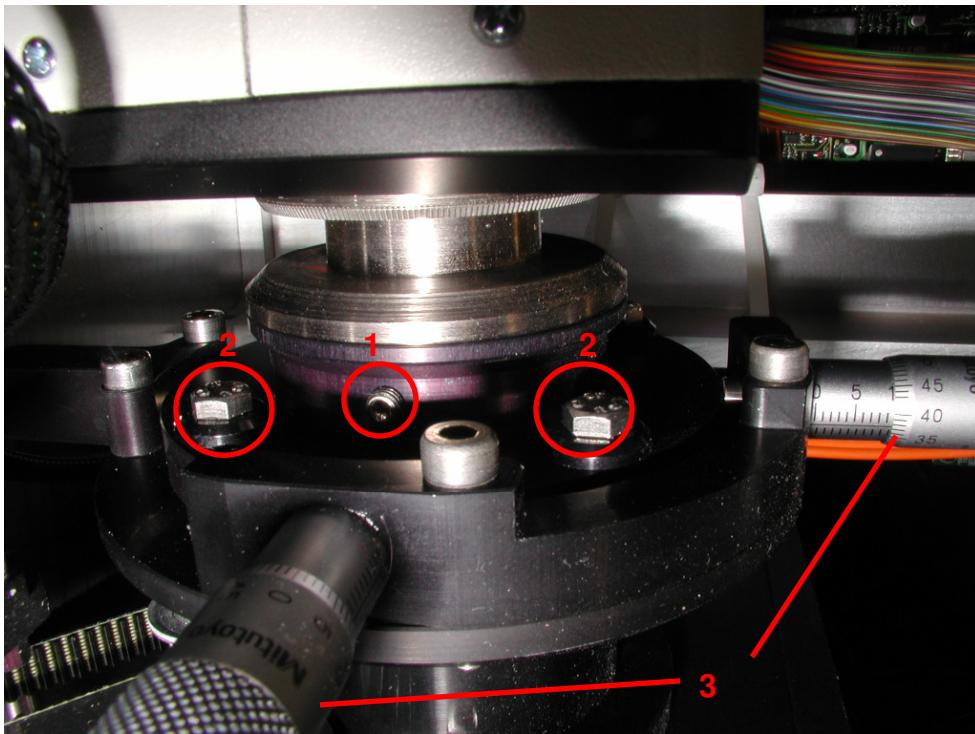
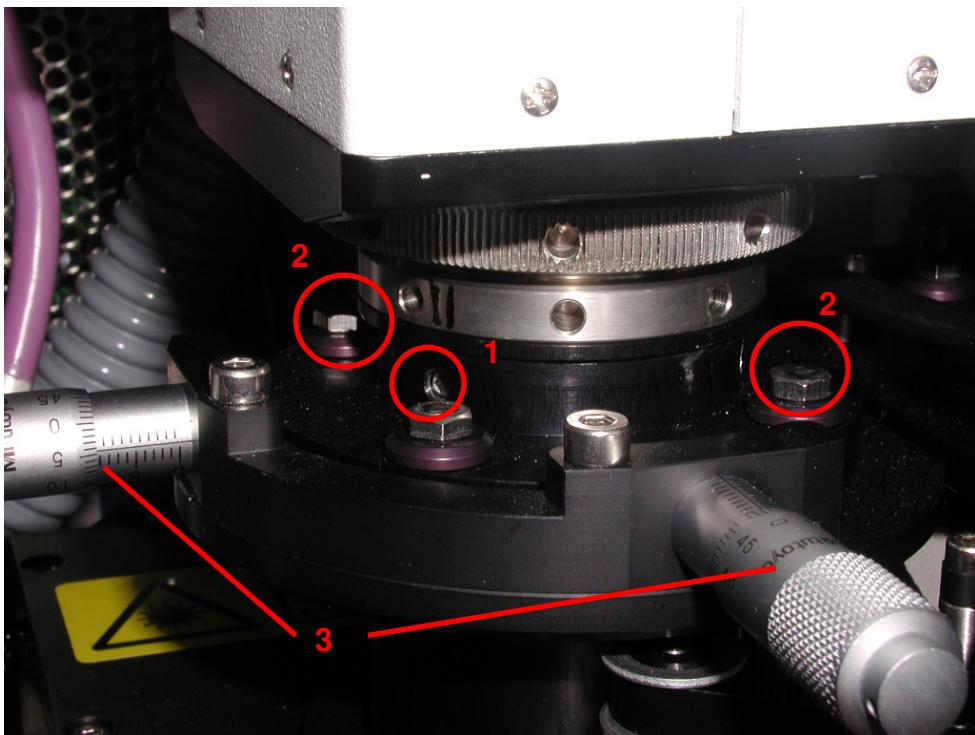

Figure 5: camera flange (old design) with all relevant screws: (1) grub screw; (2) hexagon bolts; (3) verniers
Figure 6: camera flange (new design) with all relevant screws: (1) grub screw; (2) hexagon bolts; (3) verniers
- activate the “Live” mode for camera 2 (3)
- after matching the crosshair of camera 2 (3) to camera 1 (reference) tighten all three grub screws (see *Number 1* in *Figure 5* and *Figure 6*)
- use the two verniers for further (fine) adjustment (see *Number 3* in *Figure 5* and *Figure 6*)
- fasten all four hexagon bolts carefully (see *Number 2* in *Figure 5* and *Figure 6*)